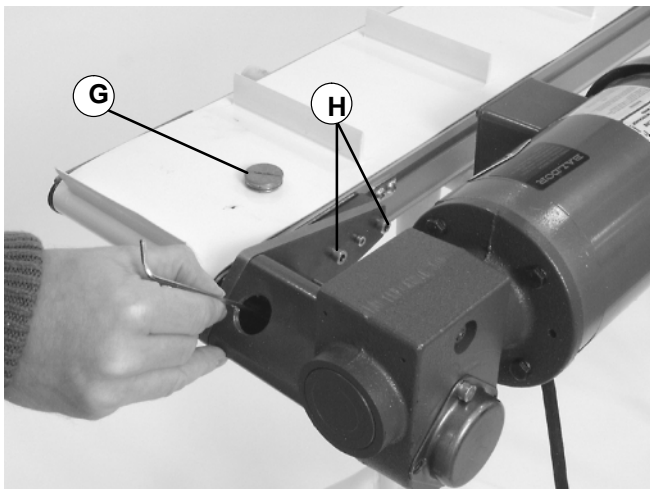

Figure 13
1. With a flat bladed screwdriver, remove the cap (G of Figure 13).
2. Loosen (2) set screws on the coupling.
3. Remove (2) motor mounting screws (H of Figure 13).